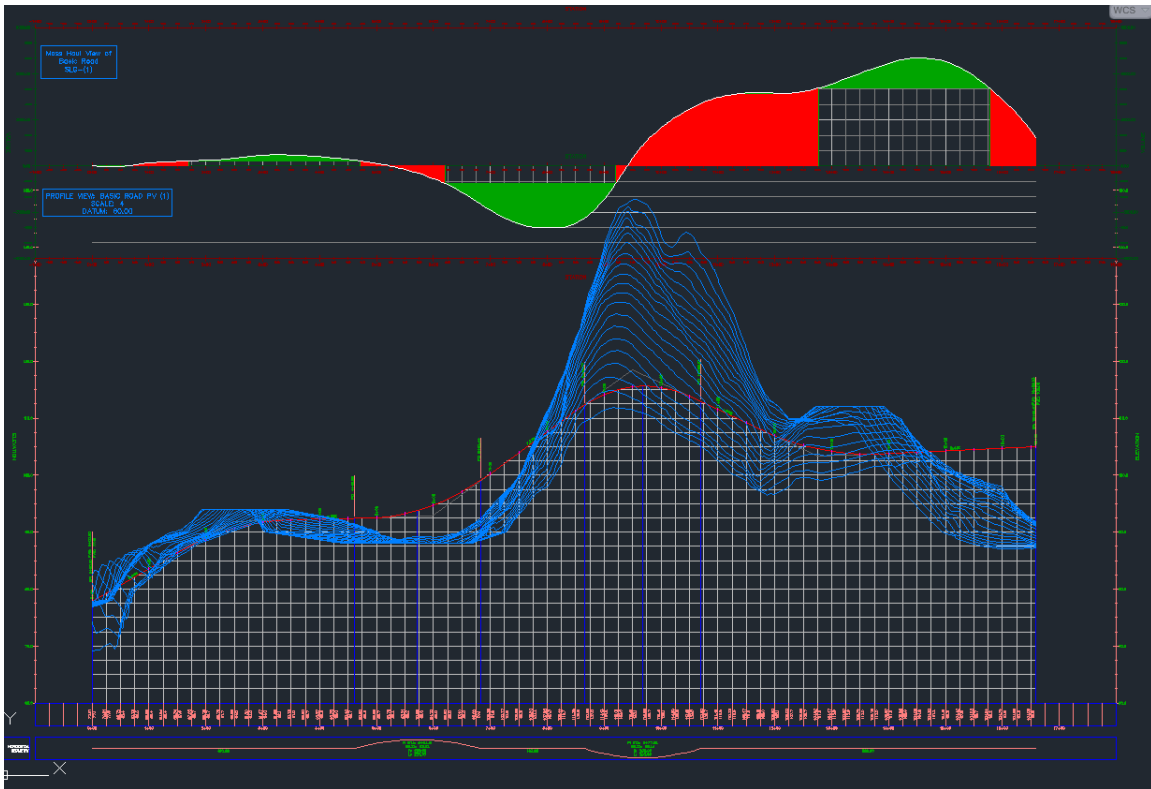

Figure 31: Silverstar-Tutorial.dwg with offsets.
4. The profile view of the drawing with offsets looks like Figure 31.